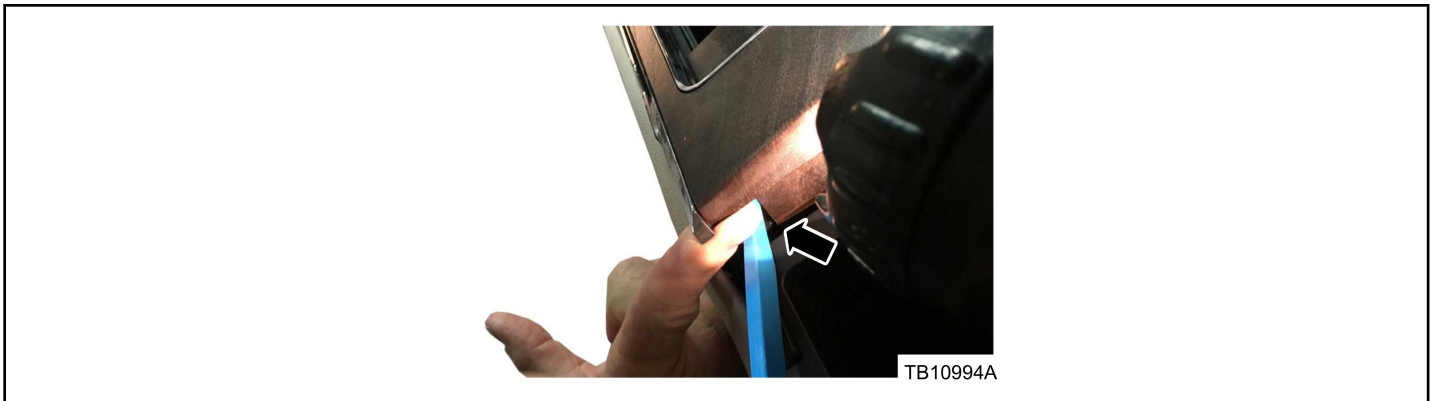

Figure 3 - Article 16-0160
5. Flex the right or left side of the louver track structure to move the louver back into the track. (Figure 3)